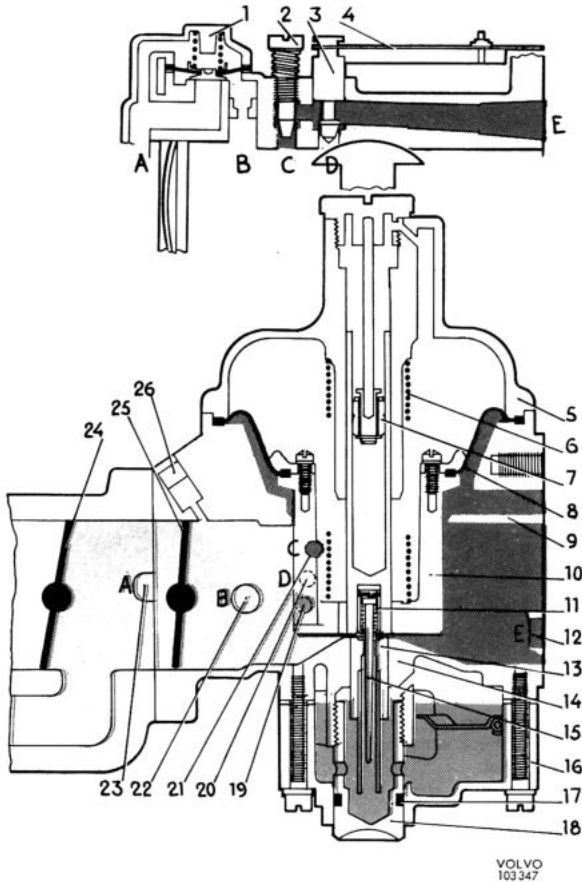
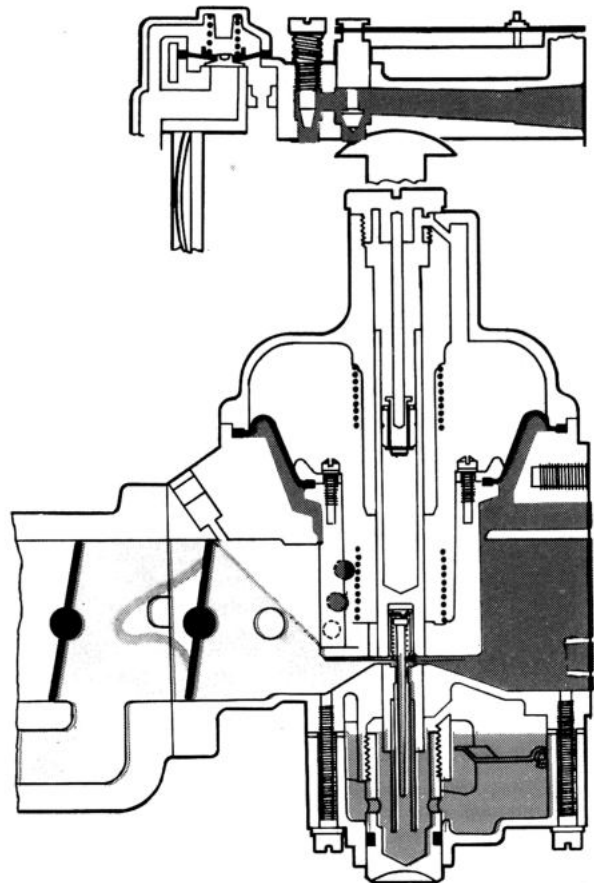

Fig. 2-55. Cold starting, principle
Fig. 2-56. Idling, warm engine
When the engine is idling, the vacuum in the carburettor suction chamber is low and the column between the air valve and the bridge will be small (see Fig. 2-56). At this stage, the thicker section of the metering needle is in the jet and thus only a small quantity of fuel, corresponding to idling requirements, is sucked into the engine. The temperature compensator (Fig. 2-55) is regulated by a bi-metal spring (4) which influences a valves (3). When the engine is hot and the temperature in the carburettor rises, the valve opens and air is supplied to the carburettor venturi to compensate for the increase in the fuel flow, which is obtained due to the alteration in the fuel's viscosity, see Fig. 2-56. Fine adjustment of the engine idling speed can be carried out with the idle trimming screw (2, Fig. 2-55).
nels in the plunger to the suction chamber which is sealed from the main body of the carburettor by the diaphragm. The pressure difference between the underside of the air valve, where there is pressure in the carburettor inlet port, and the upper side of the valve, where there is vacuum, causes the valve to lift from the bridge. This also lifts the tapered metering needle (15, Fig. 2-55), which is attached to the plunger, out of the jet. The effective choke area widens and increases the fuel flow. See Fig. 2-57.
When the air valve (10, Fig. 2-55) lifts, the damper piston (7) is forced against its seat and oil is prevented from flowing past from the upper side the lower side of the damper plunger, this retarding the movement of the valve (10). This temporarily results in a more powerful vacuum above the jet so that the fuel-air mixture becomes for the moment richer.